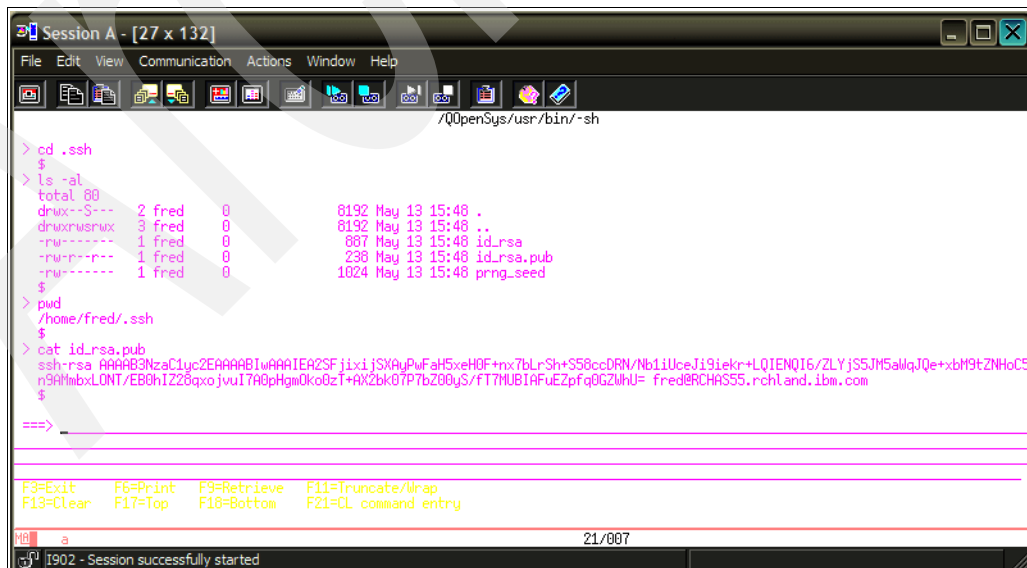

Figure 11-11 `SSH` Key
► Run a command `cat id_rsa.pub` (Figure 11-11).